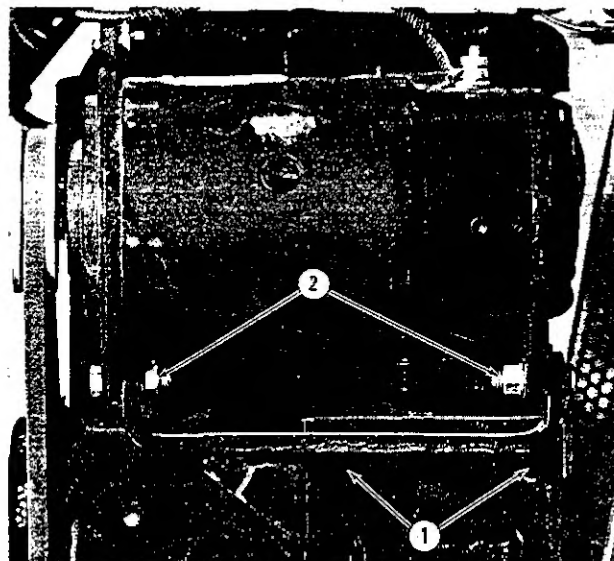
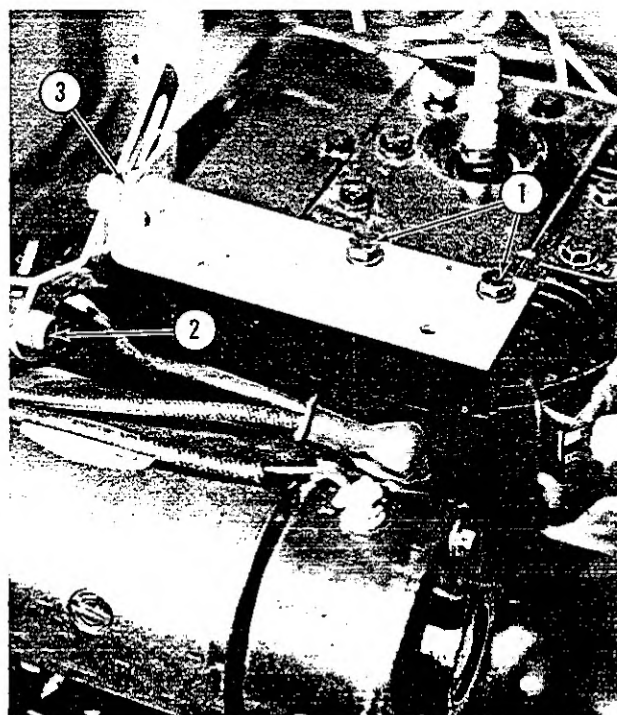

Fig. SG-2
Fig. SG-3
Attach upper generator support bracket to engine head by means of the two head bolts shown (1), Fig. SG-3. (Note: these two bolts must be re-tightened to 175 to 200 inch pounds of torque.
Attach belt tension lever to the starter generator (2), Fig. SG-3 with 5/16-18 x 3/4" screw, etc.
Position the starter generator between the upper and lower supports with the pulley toward the rear. Attach to the lower supports with 5/16-18 x 1 1/4" screws, (2), Fig. SG-2 and to the upper support by 5/16-18 x 3/4" screw through slot in the adjustment lever, (3), Fig. SG-3.
Place the belt around the engine pulley and the starter pulley, then position the generator to give adequate belt tension (deflection of about 3/8" midway between pulleys.) Secure in this position by tightening screw at (3), Fig. SG-3.